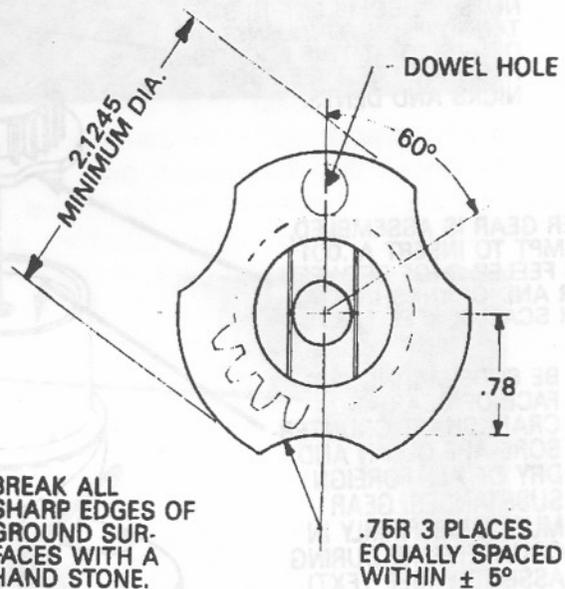
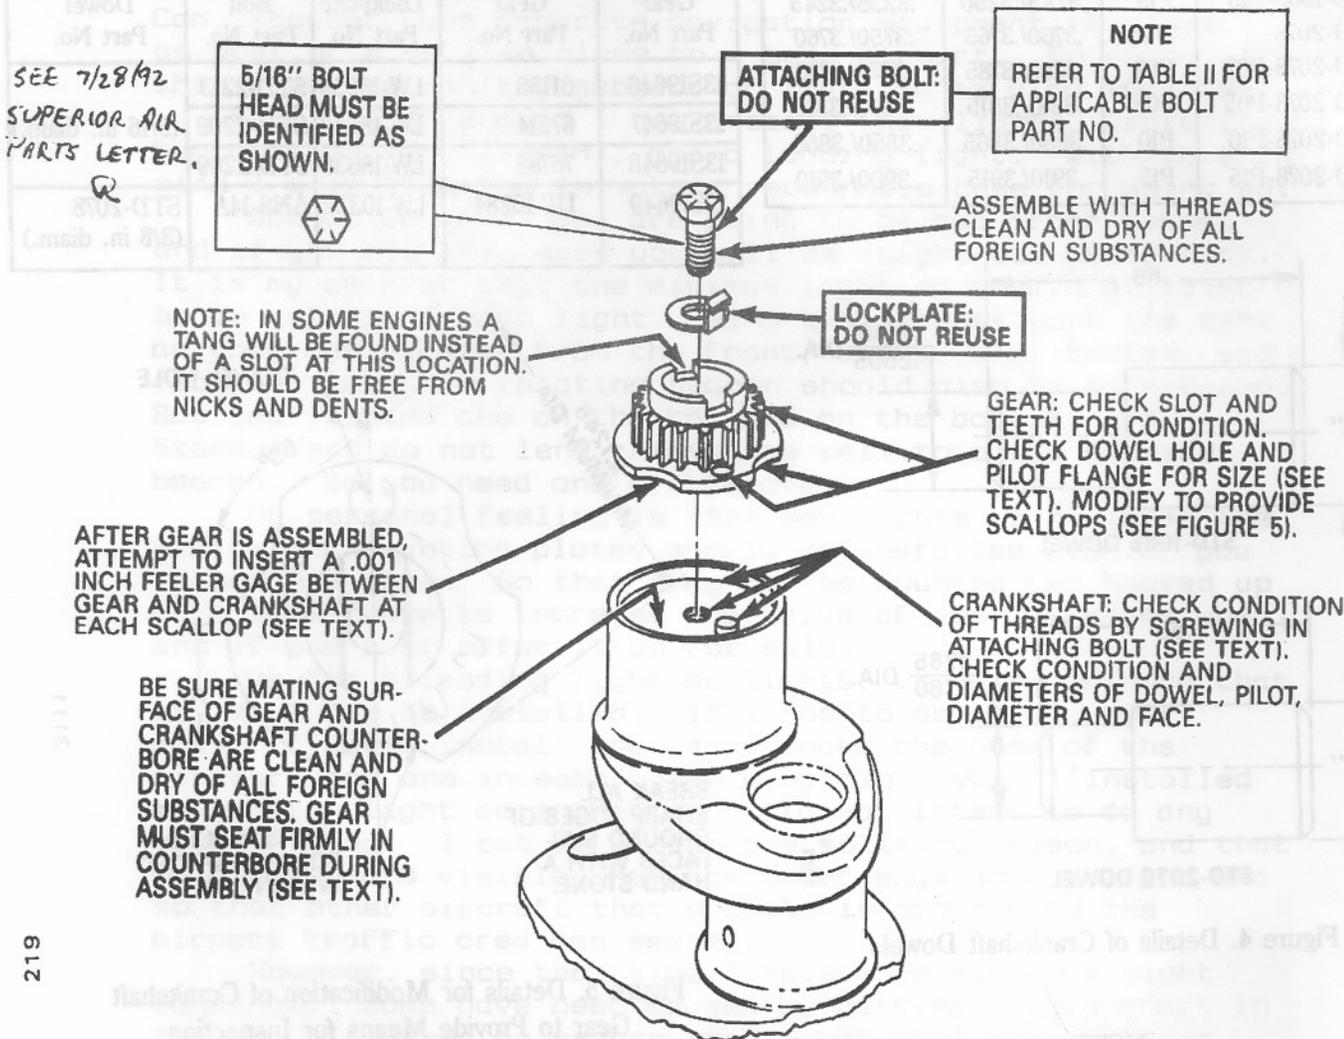

Figure 5. Details for Modification of Crankshaft Gear to Provide Means for Inspection
Figure 6. Rear End View of Crankshaft Showing Associated Parts
Crankshaft gears for applicable engines are now manufactured with three 3/4 inch radius scallops cut into the O.D. of the pilot flange. These enlarged scallops have been added to allow inspection of the gear and crankshaft assembly. Serviceable gears must be modified as shown in Figure 5, prior to being reassembled on the crankshaft, or a new gear that has been manufactured to this configuration must be installed. Before modifying the gear, measure the diameter of the
6. Assemble the gear to the crankshaft using both a new lockplate and bolt. Refer to Figure 6. The correct bolt, lockplate and dowel for each gear are shown in Table II. Tighten the bolt to 125 inch lbs. torque, then with a hammer and brass drift, tap lightly around the pilot flange of the gear and listen for sharp solid sounds from the hammer blows that would indicate that the gear is seated against the crankshaft. To insure that the gear flange is properly seated against the crankshaft, attempt to insert a pointed .001 inch
(5) Verify that the crankshaft gear incorporates three .75 inch radius scallops on the flange as shown in Figure 5 of Textron Lycoming SB No. 475, Revision A, dated July 16, 1990. Assemble gear onto crankshaft using a new retaining bolt and lockplate and insure fit of mating parts as described in Section 6 and Figure 6 of the Textron Lycoming Service Bulletin No. 475, Revision A, dated July 16, 1990.